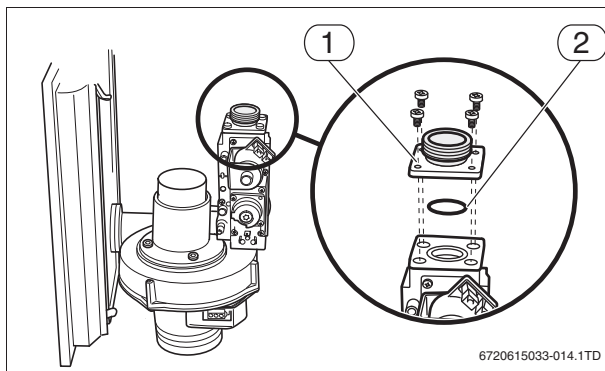

Fig. 13 Installing the gas flange
- Install the gas flange from the natural gas assembly on the new gas valve (→ fig. 13, [1]).
- Replace the seal under the gas flange with a new seal (→ fig. 13,[2]).